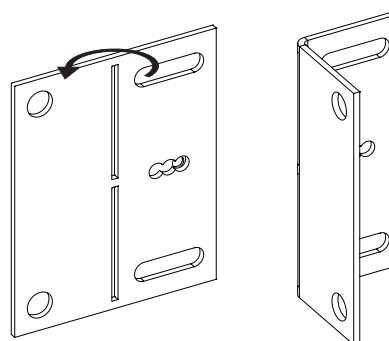

Figure 13
7. Bend the nailing flanges 90 degrees as shown in **Figure 13.**